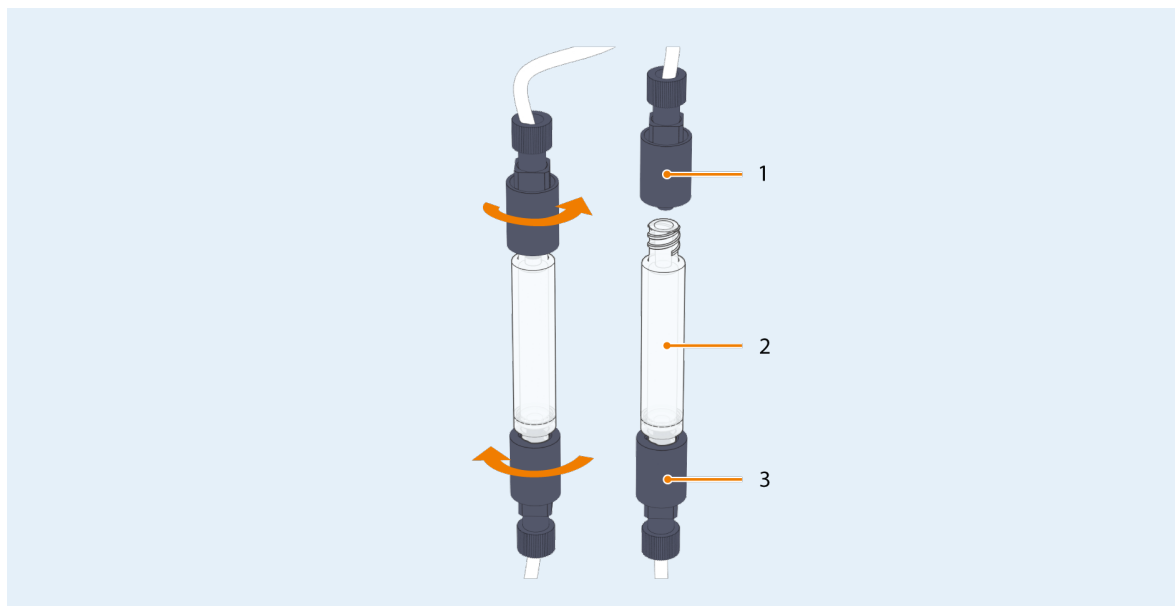

Figure 4.1: Removal of autoMACS Columns
- 13 Hold the column substitute in one hand and unscrew the bottom column connector clockwise and the top column connector counter-clockwise (**Figure 4.1**).